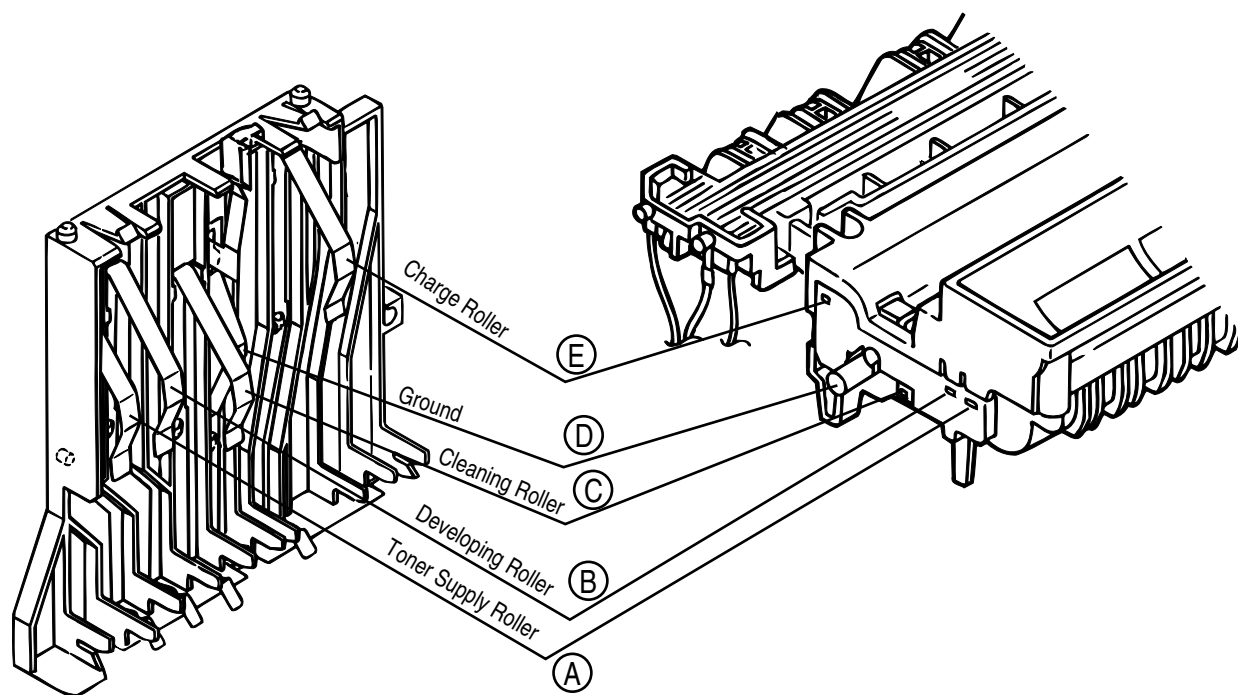

Figure 6-5
① Image are light or blurred a whole.
② Dark background density
- No Is the contact of the cleaning roller of the image drum cartridge contacted with e contact assembly properly? (See Figure 6-5 ③.)
③ Black paper is output.
- Yes Is the contact of the image drum cartridge contacted with the ground contact properly. (See Figure 6-5 ④.)